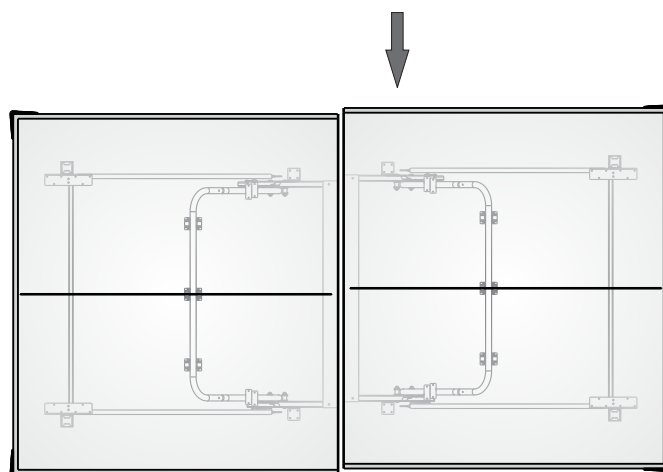

Figure 18
3. With the help of two other adults, push the two table top halves so they are in line with each other and re-tighten the Wing Nuts (#32) as shown in Figure 18.